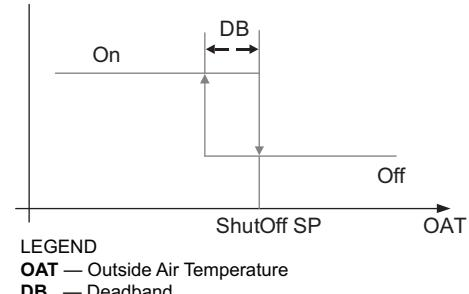

Fig. 63 — Hysteresis Settings
Hysteresis setting (DB) defaults to 2°F (−17°C). See Fig. 63.